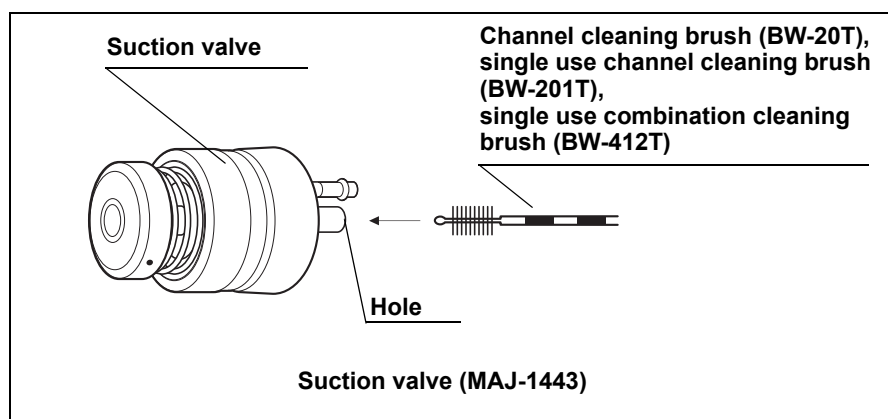

Figure 7.43
7. Using the channel cleaning brush (BW-20T, BW-7L), the single use channel cleaning brush (BW-201T), the single use combination cleaning brush (BW-412T), or the single use single-ended cleaning brush (BW-400L) thoroughly brush the hole of the suction valve and air/water valve, the openings of biopsy valve and balloon applicator until no debris can be seen (see Figures 7.43 and 7.44). Clean the bristles of the brush while it is immersed in detergent solution.